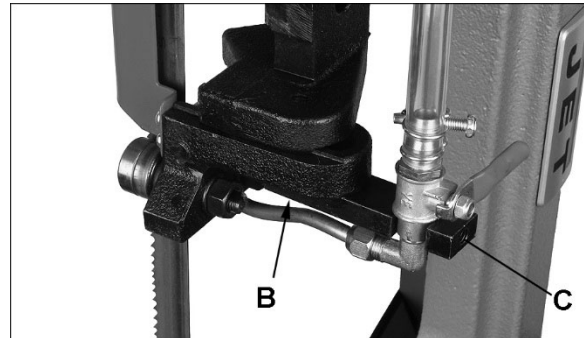

Figure 8-3: upper blade guide rotation (712DV only)
4. Repeat above step for top blade guide bracket. NOTE: Loosen set screw (C, Figure 8-3) and slide coolant valve assembly out of slot to